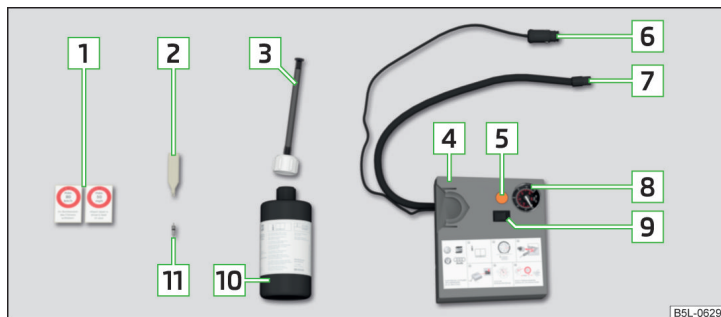

Fig. 165 Principle sketch: Repair kit components
Components of the set » Fig. 165
- Stick the corresponding sticker  » Fig. 165 on page 174 on the dashboard in the driver's field of view.
- Shake the tyre inflator bottle  » Fig. 165 on page 174 vigorously several times.
- Screw the air compressor tyre inflation hose  » Fig. 165 on page 174 firmly onto the tyre valve.